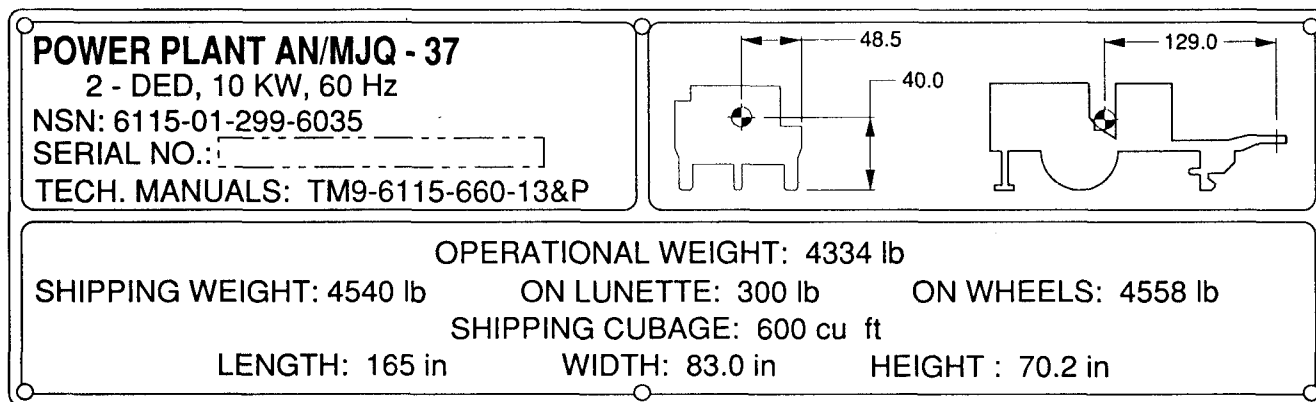

Figure 2-10. AN/MJQ-37 Identification/Transportation Data Plate.
**2-6.1 AN/MJQ-37 Identification/Transportation Data Plate.** Refer to figure 2-10. This plate is located on front of curbside fender.